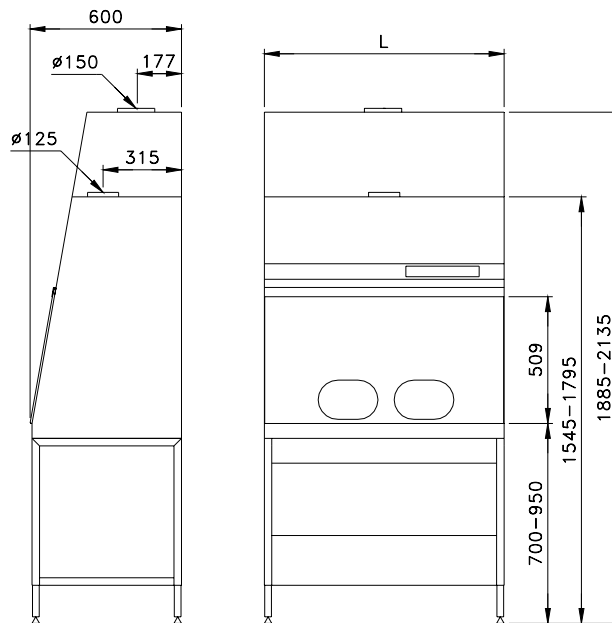

Figure 2. Dimensions of the HC.
- Check that the dimensions of the bench (see figure 2, page 6) make free access to the desired site possible.